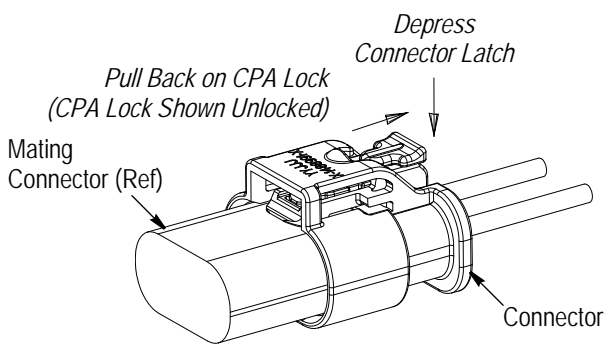

Figure 4
1. If using the CPA lock, pull back on the CPA lock to unlock the connector and mating connector. Refer to Figure 4.